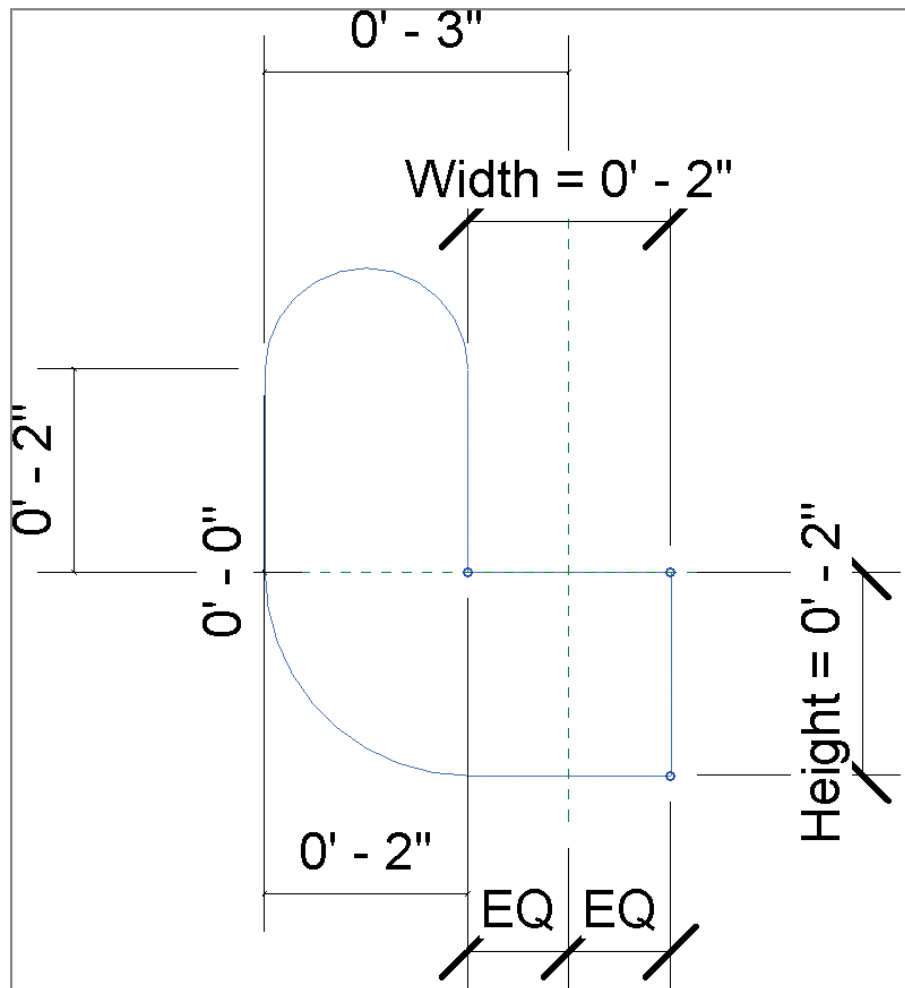

FIGURE 6.19 New handrail profile
3. On the Create tab in the ribbon, click the Line tool, and add new profile lines to resemble Figure 6.19. Note that the parameters for Width and EQ have been retained. Load the profile into your project; the L Shaped Handrail profile family is now listed in your Project Browser along with the other profile families.